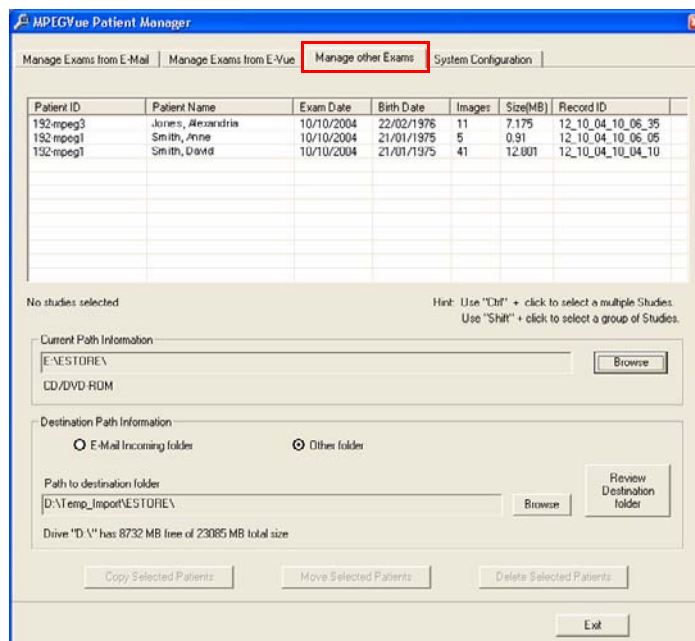

Figure 3-139 MPEGVue Patient Manager Window - Manage Other Exams Tab
- a.) Make sure the Manage Other Exams tab is activated as shown in Figure 3-139.
Once the user has specified any source directory that contains MPEGVue studies (these may be located on CD/DVD-ROM, DOK or any local hard drive), exam details are displayed (in table format) in the Patient List. The information shown includes *Patient ID*, *Patient Name*, *Exam Date*, etc. as seen in the example in Figure 3-139, above.